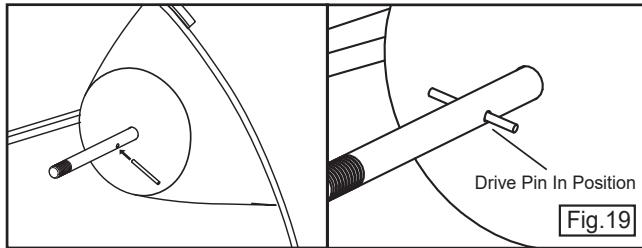

Fig.19
8. Replace the drive pin (if removed), see figure 19, and Propeller. Turn the Propeller slowly until you locate the pin and push the Propeller fully on.